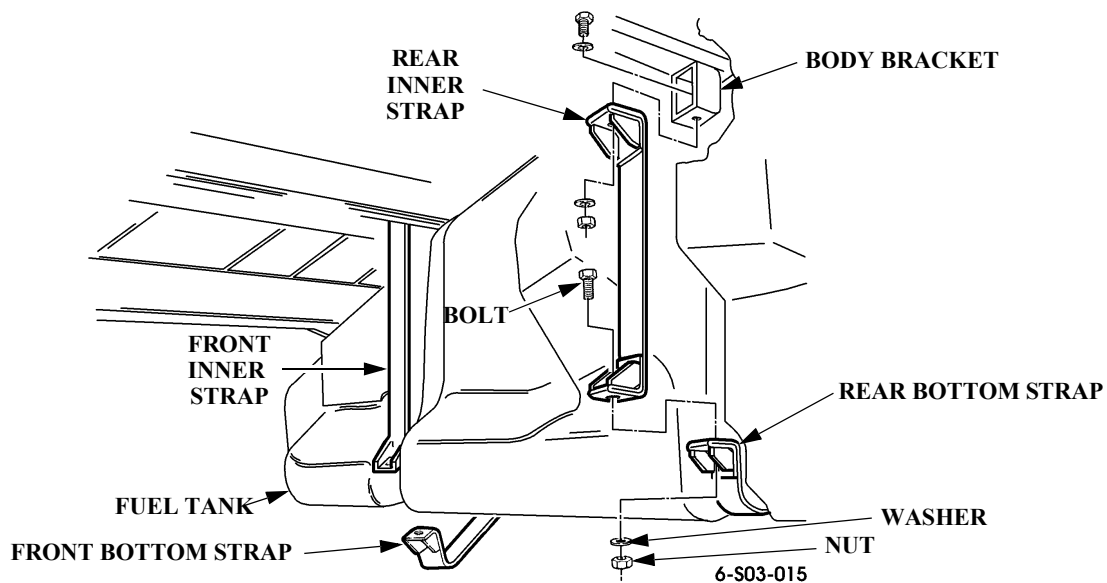

Figure 3: Fuel Tank Mounting Straps
14. Remove the bolts and nuts connecting the front and rear inner tank mount straps to the bottom straps (See Figure 3). Remove both bottom straps and unbolt the rear inner strap from the body and discard.